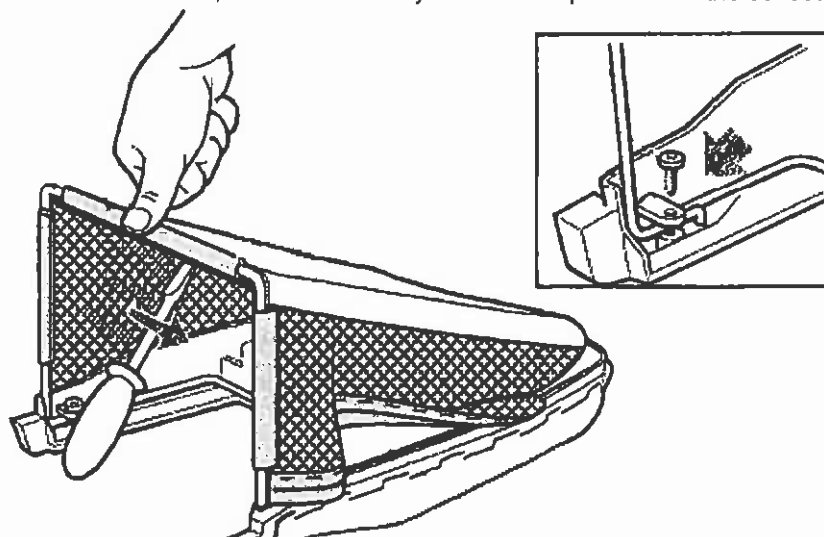

Figure 2
- Fit the cloth base by fastening the plastic bars onto the frame, it may help to use a screwdriver as shown in the drawing to do this. Then click the edge into the groove in the top starting 5-7mm from an end (Figure2).